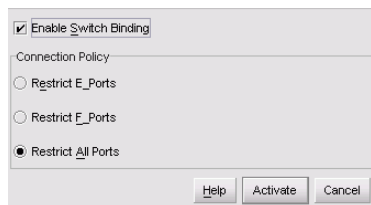

Figure 73 Switch Binding State Change dialog box
1. Select **Configure > Switch Binding > Change State** from the **Element Manager** window. The Switch Binding State Change dialog box appears, as shown in Figure 73.